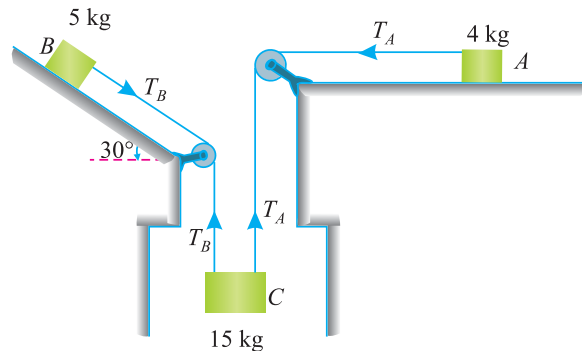

Fig. 25.19.
**Example 25.14.** A system of bodies A, B and C in Fig. 25.19 is released from rest.